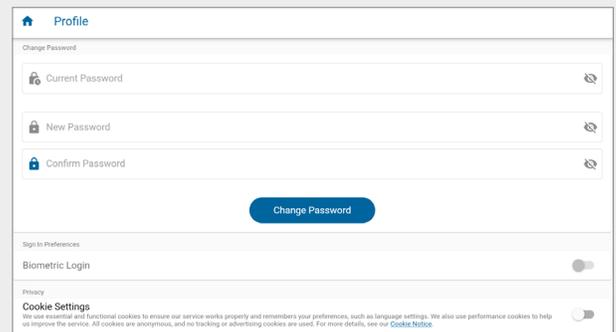

Fig. 134 – Cookie Settings option toggled off
4. Toggle off the **Cookie Settings** option, as shown in Fig. 134.